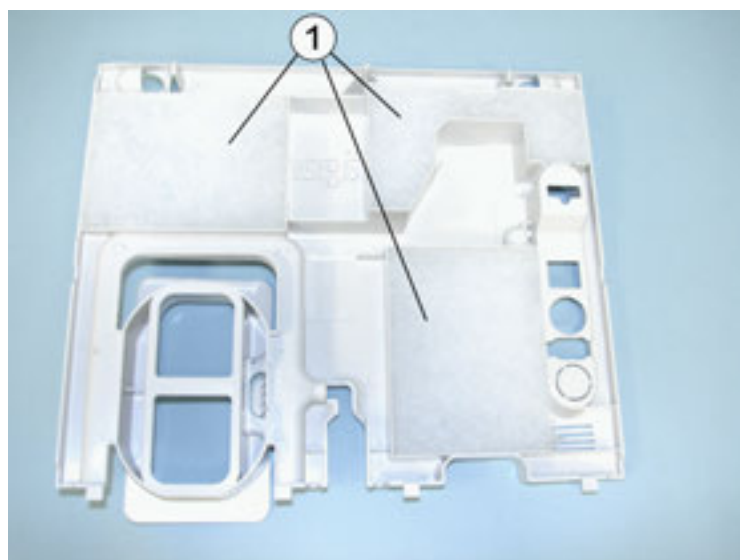

Fig. 79 Filter cover; dust filters (3x)
- 3 Withdraw the dust filters (Fig. 79/1) out of the filter cover and dispose of them in the domestic waste bin.
- 1 Insert the new dust filters (Fig. 79/1) in the recesses in the filter cover.